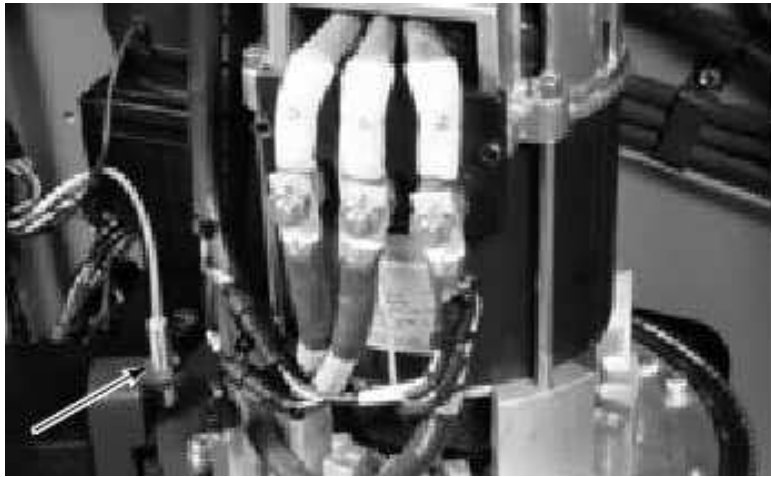

Figure 7-8. Home Proximity Sensor
2. Loosen the two lock nuts securing the sensor to the bracket. See Figure 7-8.